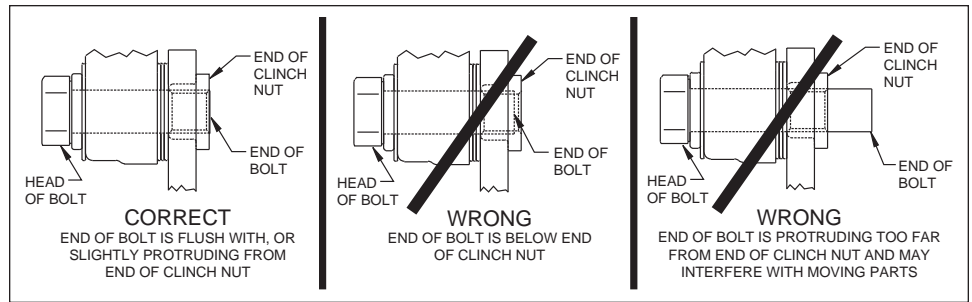

Figure 5. Clinch Nut Engagement Diagram
**Assembly Instructions** (numbers in parenthesis refer to the parts list, and Figure 1 on the preceding pages): **CAUTION:** All mounting bolts must fully engage clinch nuts. Be sure to check that all bolts are either flush or protruding through flanged side of clinch nut after shimming, Figure 5.
•**NOTE:** Please reference the caution statement at the beginning of the assembly instructions. Mount the caliper (customer supplied) onto the caliper mounting bracket (1) using bolts (6) and washers (5), as shown in Figure 1. Initially place two .035" thick shims (7) on each bolt between the caliper and the bracket, Photo 5. Temporarily tighten the mounting bolts and view the rotor (4) through the top opening of the caliper. The rotor should be centered in the caliper, Photo 6. If not, adjust by adding or subtracting shims between the bracket and the caliper. Always use the same amount of shims on each of the two mounting bolts. **NOTE:** The end of each bolt must be flush with or slightly protruding from the head of the clinch nut, as shown in Figure 5. If necessary place spare shims between washer (5) and caliper mounting ear to achieve the proper clinch nut engagement. Once the caliper alignment and clinch nut engagement are correct, remove the bolts one at a time, apply red *Loctite*® 271 to bolt threads, and torque to 40 ft-lb.
•Install the disc brake pads (customer supplied) into the caliper, with the friction material facing the rotor (4), and secure in place using pad clip retainer (customer supplied), Photo 7.
•**NOTE:** Clevis and cable kits which attach to the parking brake assembly are not included in the Wilwood parking brake kit. Wilwood offers a generic style parking brake cable kit, P/N 330-9371 for this application which can be ordered separately from your local Wilwood dealer or by calling Wilwood customer service at (805) 388-1188.
•Before final installation of the wheel, install three lug nuts, remove the rubber grommet in the bracket kit assembly (1) and adjust the parking brake shoes outward (using a drum shoe adjustment tool available at your local auto parts store) while spinning the rotor/hat (4) until a slight drag is felt against the hat/drum. Replace the rubber grommet when finished.